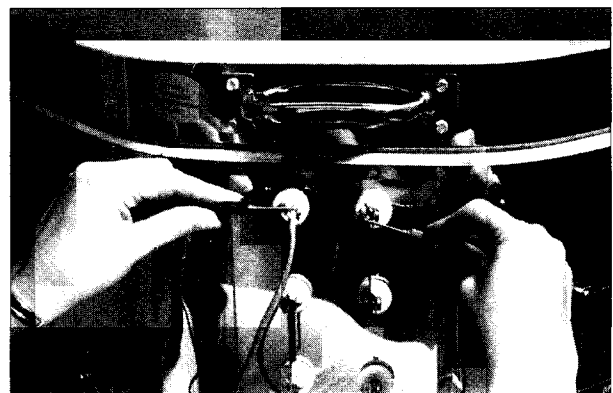

Figure 23
3. Locate damage with multimeter (see Figure 23).